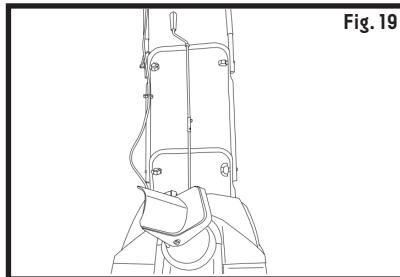

Fig. 19
1. The discharge chute can be adjusted 180° by rotating the chute crank. Rotate the chute control crank clockwise to move the discharge chute to the left (Fig.18) and counter-clockwise to move the chute to the right (Fig.19).